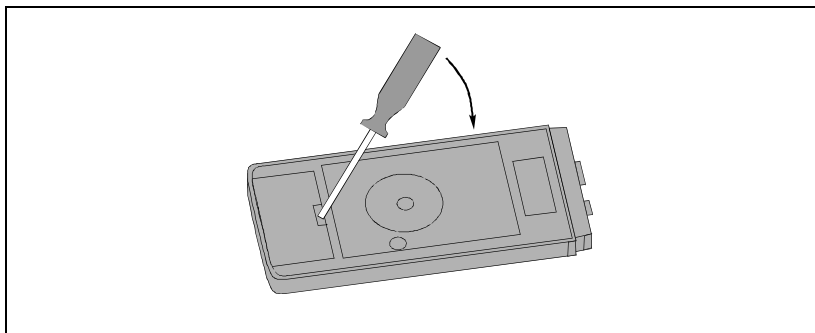

Figure 10.1: Open the battery compartment cover
2. Place the instrument with the back side facing up on a table. To open the battery compartment cover, insert the tip of a screwdriver into the slotted recess of the battery compartment cover and carefully push the screwdriver down (see figure 10.1). The cover will lift up on the side with the recess.